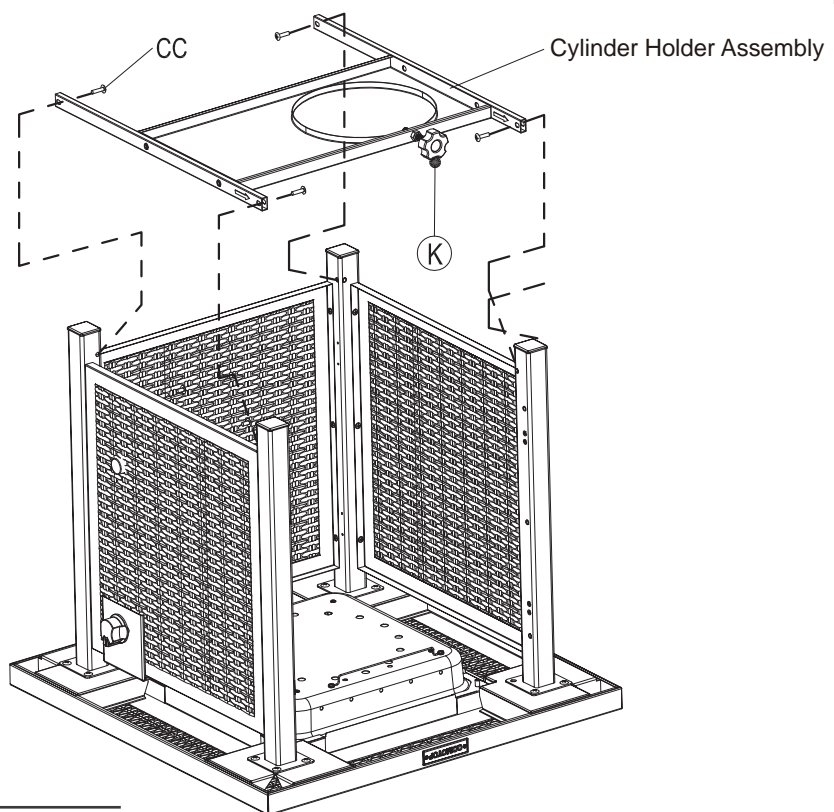

Fig. 8
Attach the cylinder holder assembly to 4 legs with (4) M5x20 bolts (CC) as Fig. 8.